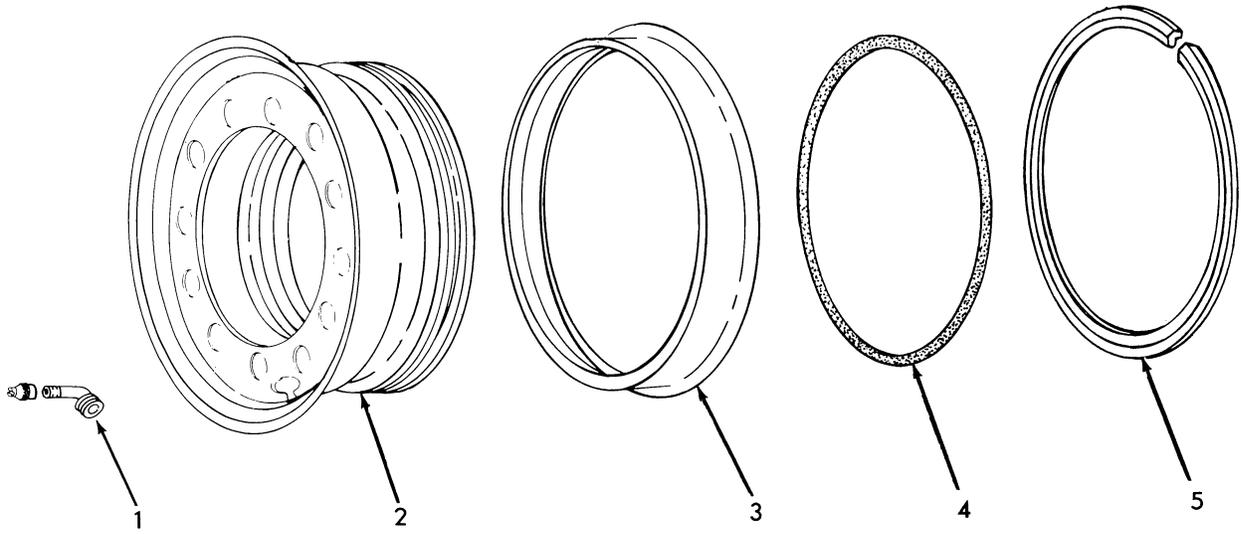

FIG.5 TIRE AND WHEEL GROUP(FR10,FR12)
Legend for Figs.5 and 6
Using a tire tool (Topic 13), pry off the lockring (5), Fig. 5 and 6.
Install the tire and flanges (6) onto the wheel (2), Figs.5 and 6. Position the tire so that it seats properly during inflation. To facilitate installation of a new tire, use a mechanic or hydraulic "come along" to better seat the tire bead. Pry bars may be necessary to move the bead of the tire closer to the rim.